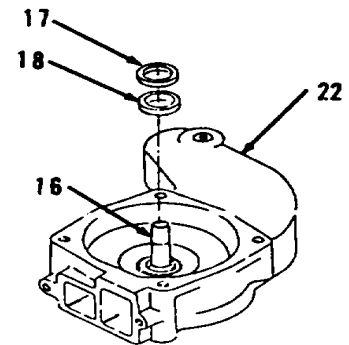

Figure 3-196.
13. Install new ring (17), smooth side facing new seal (18, Figure 3-196).
14. Soak in clean, cold water for 30 seconds and lubricate new seal (18).
15. Using seal installation tool, install new seal (18) on shaft (16) and seat counterbore of housing (22).